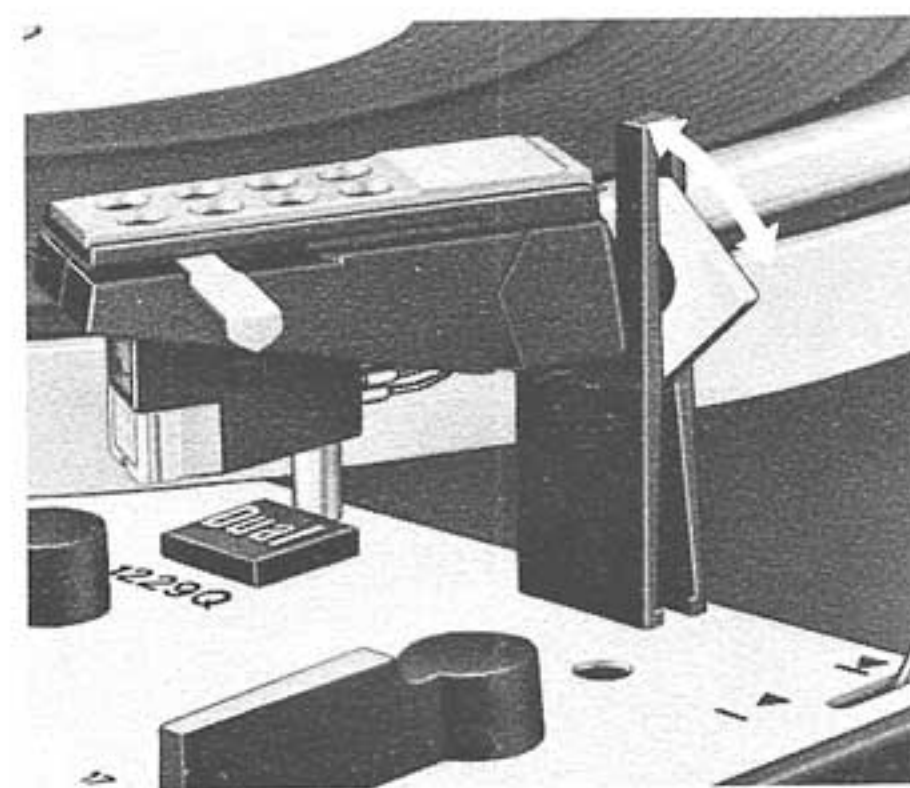

Fig. 7
Select the correct turntable speed ①, set the record-size selector to match the diameter of the record on the turntable (17, 25 or 30 cm, or 7, 10 or 12 inches), and unlock the tonearm (Fig. 7). The unit is now ready to play.
**Note:** At the end of a record, or at the end of the last record of a stack, the return of the tonearm and switch-off are automatic. It is advisable to lock the tonearm in place (Fig. 7) after turning off the system.